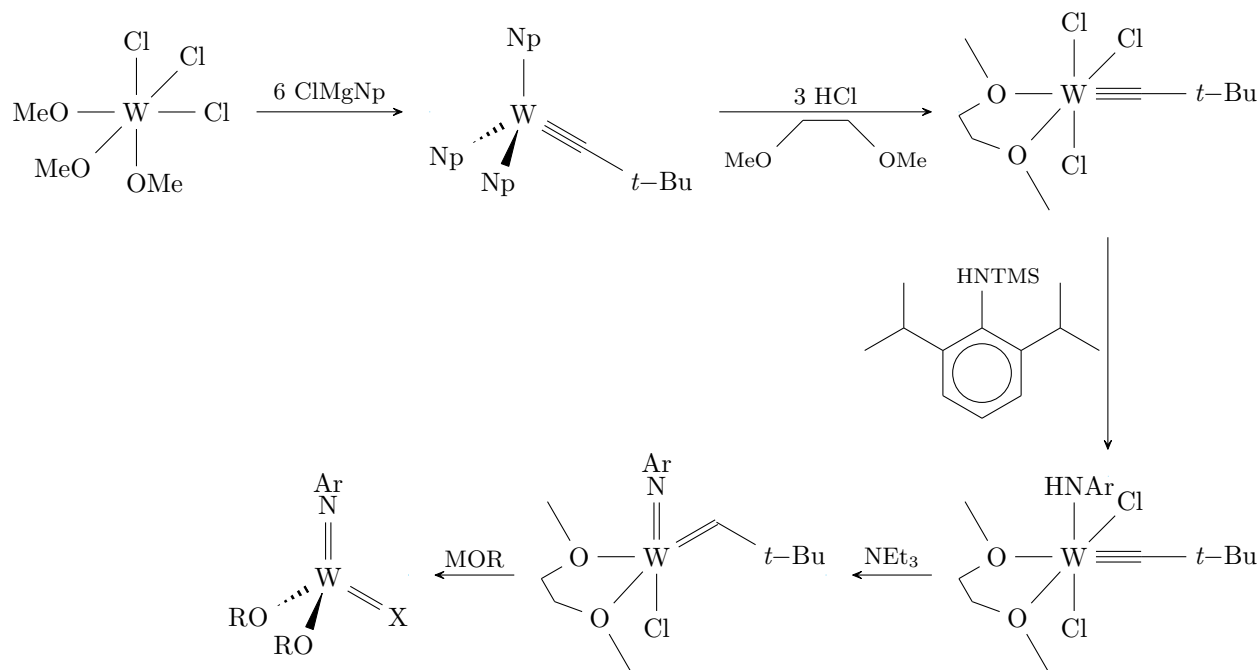

Figure 2.15: Tungsten olefin metathesis.
- Also,  $W(CO)_6 + MeLi \xrightarrow[-CO]{2KC_8} K_2[W(CO)_5] \xrightarrow[R-X]{Cl-C(=O)-OR} (CO)_5W=C(OMe)(Me)$ .
- Also,  $W(CO)_6 + MeLi \xrightarrow[-CO]{2KC_8} K_2[W(CO)_5] \xrightarrow{R_1-C(=O)-NR_2} (CO)_5W-C(O-)(R_1)(NR_2) \xrightarrow{TMSCl} (CO)_5W=C(NR_2)(R_1)$ .
- Olefin metathesis (see Figure 2.15).